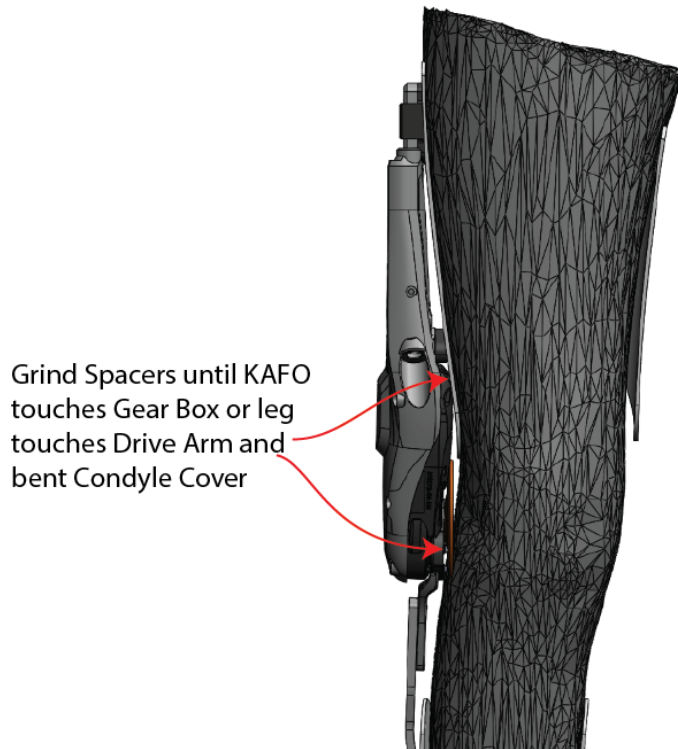

Figure 8 Grinding Spacers
- After the actuator jig is oriented correctly on the sliding metal jig, grind the spacers as shown below in Figure 8. The Actuator will be mounted so that it is as close to the upper KAFO shell as possible to minimize access and minimize axial (transverse plane) twisting torque, so the spacers should be ground so that the Actuator Jig is as close as possible to the KAFO shell.